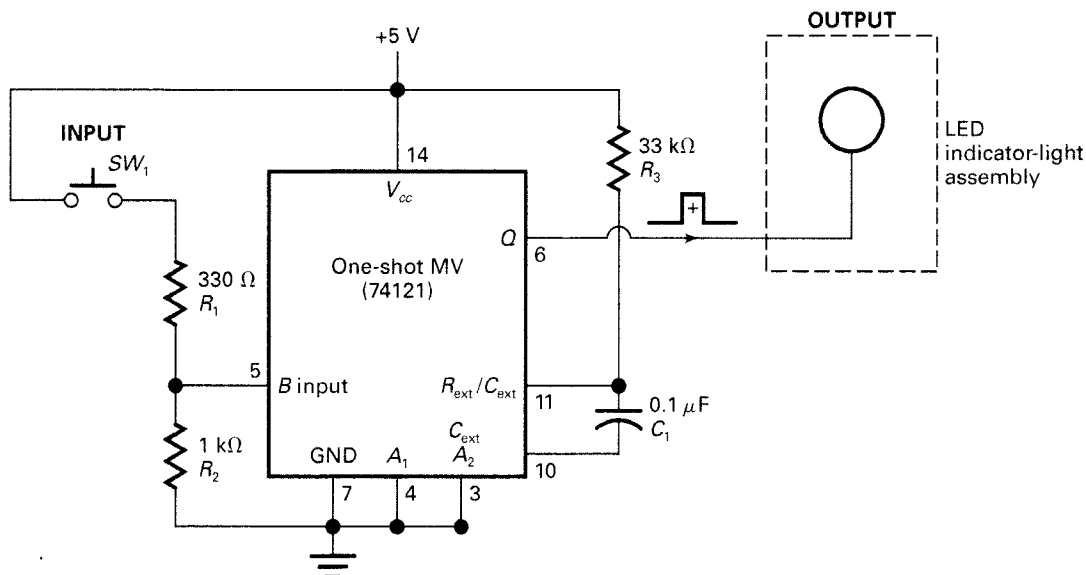
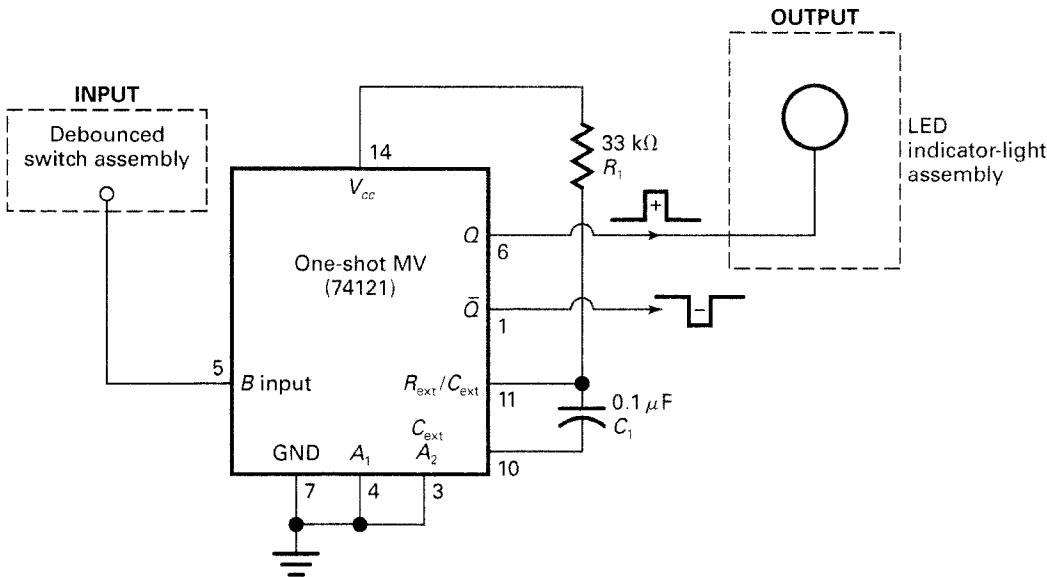
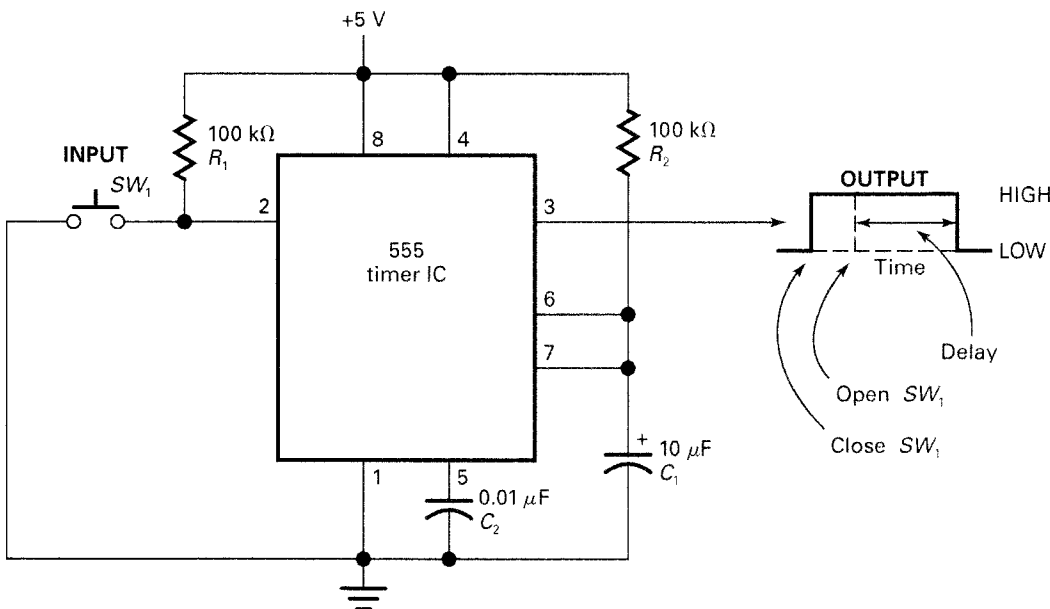

Fig. 1-6 A one-shot multivibrator circuit.
Fig. 1-7 A debounced switch input to a one-shot multivibrator circuit.
Fig. 1-8 A switch debouncing circuit.
You will wire a monostable multivibrator circuit based on the 74121 IC. The circuit in Fig. 1-6 shows the wiring of the 74121 one-shot MV. The external components R_3 and C_1 determine the pulse width (time duration) of the positive pulse. This circuit was designed to emit a positive pulse of about 2 to 3 ms. A positive pulse of 2 to 3 ms is long enough to produce a visible flash on the attached LED indicator-light assembly. The one-shot is triggered by a positive voltage appearing at *input B* of the 74121 IC caused by the closing of SW_1 . The normal Q output of the 74121 emits a short positive pulse. Remember that the pulse width is determined by the design of the multivibrator circuit and not on how long the input switch (SW_1) was pressed. To increase the pulse width of the one-shot in Fig. 1-6, the values of R_3 and/or C_1 would be increased.
The one-shot MV circuit in Fig. 1-6 should emit only one pulse with the press and release of SW_1 . As a practical matter, the 74121 IC may be triggered more than once with a single press and release of input switch SW_1 because of *switch bounce*. A revised schematic for the one-shot multivibrator is drawn in Fig. 1-7. A debounced switch provides the positive trigger voltage in the revised circuit.
The normal output Q (pin 6 on the 74121 IC) in Fig. 1-7 emits a positive pulse when the input is triggered. The complementary output \bar{Q} (pin 1) is also identified in Fig. 1-7 and could be used if a negative pulse were required.
In the lab your digital trainer may have a debounced switch available as the input to the one-shot MV circuit in Fig. 1-7. If you do not have a debounced switch available, Fig. 1-8 provides a debouncing circuit based on the 555 timer IC. The output from the debouncing circuit emits a positive voltage beginning when input switch SW_1 is first pressed. The output remains
HIGH for a time after SW_1 is released (opened). This delay time is adjustable by changing the value of capacitor C_1 . Decreasing the value of C_1 decreases the delay time. The delay time designed into the circuit in Fig. 1-8 is about 1 second so it can be easily observed on the output LED.
3. Power OFF. Refer to Fig. 1-6. Wire the entire circuit. Pin numbers for the 74121 IC are shown on the outside of the symbol. See your instructor if you have any questions about the input switch or output LED indicator-light assemblies.
5. Did you observe false triggering when operating the one-shot MV circuit in Fig. 1-6?
6. Power OFF. Refer to Fig. 1-7. Rewire the one-shot multivibrator circuit using a *debounced switch assembly*. The debounced switch input will eliminate false triggering, and the circuit will emit only a single positive pulse at output Q as the input switch is closed and opened. Check with your instructor on which debounced switch assembly to use (from digital trainer or the debounced switch circuit furnished in Fig. 1-8).
8. Show your instructor the normal operation of the circuit from Fig. 1-7.
9. *OPTIONAL*: Connect an oscilloscope to the normal output Q (pin 6) of the one-shot multivibrator shown in Fig. 1-7, and observe the time duration of the positive pulse emitted by the 74121 IC. It will be in the range of 2 to 3 ms. Suggested initial scope settings might include DC mode, auto triggering, 1 V per division, and 1 ms per division.
11. Power OFF. Refer to Fig. 1-7. Try replacing C_1 with a $0.033 \mu\text{F}$ capacitor to change the time duration of the positive pulse from the 74121 one-shot.
13. Show your instructor your measurements on the circuit in Fig. 1-7 when $C_1 = 0.1 \mu\text{F}$ and when $C_1 = 0.033 \mu\text{F}$. Be prepared to answer questions on the one-shot MV circuit and your measurements.
2. Refer to Fig. 1-6. The false triggering that was observed during the operation of this MV circuit was caused by switch _____ (bounce, hysteresis). 2. _____
3. Refer to Fig. 1-7. Which debounced switch did you use when operating this MV circuit? 3. _____
4. Refer to Fig. 1-7. Why does the 74121 have two outputs? 4. _____
5. Refer to Fig. 1-8. This circuit uses the popular 555 timer IC wired as a _____ (one-shot MV, switch debouncer). 5. _____
6. Refer to Fig. 1-7. What is the approximate pulse width for this one-shot MV circuit? 6. _____
7. Refer to Fig. 1-7. If you decrease the value of capacitor C_1 from $0.1 \mu\text{F}$ to $0.033 \mu\text{F}$, the pulse width _____ (decreases, increases). 7. _____
8. Refer to Fig. 1-8. If you decrease the value of capacitor C_1 from $10 \mu\text{F}$ to $1 \mu\text{F}$, the time delay after the input switch opens _____ (decreases, increases). 8. _____